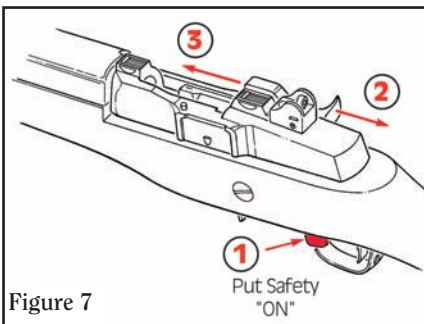

Figure 7
2. Pull the slide handle all the way to the rear and release. Make sure safety is "ON" (see Fig. 7). NOTE: Hammer must be cocked and safety must be "ON" to accomplish disassembly and reassembly. **Again, be sure chamber is empty!**